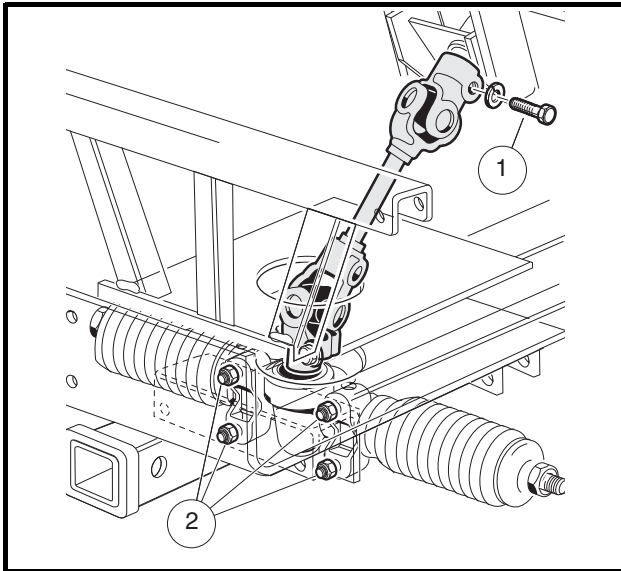

Figure 14-9 Compound Steering Joint
- 2.6. Remove the bolt (1) that connects the steering joint to the steering column shaft (**Figure 14-9, Page 14-13**). **See following NOTE.**
- 2.7. Remove the four bolts and locknuts (2) from the rack and pinion assembly mount and gently disconnect the steering joint from steering column shaft at the bolt (1) location (**Figure 14-9, Page 14-13**). Gently allow both the rack and pinion assembly and the steering column shaft to drop down, remaining suspended between both rod ball joint ends.
- 6.6. Slip the splined steering joint over the splined steering column shaft, aligning with the mark made during disassembly. Attach the bolt (1) through the steering joint flange and loosely attach the nut (**Figure 14-9, Page 14-13**).
- 6.7. Attach the rack and pinion assembly to the shock tower plate using the four bolts (2) and locknuts (**Figure 14-9, Page 14-13**). Tighten to 20 ft-lb (27 N·m).